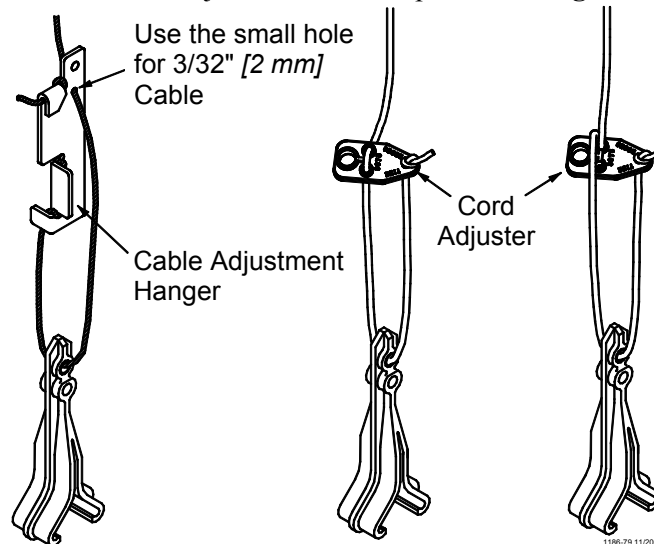

Figure 8. Cable Drop Installation
8. Cable drop installations: Install an Adjustment Leveler on each drop line. See **Figure 8**.
Cord drop installations: Install a Cord Adjuster on each drop line. See **Figure 8**.